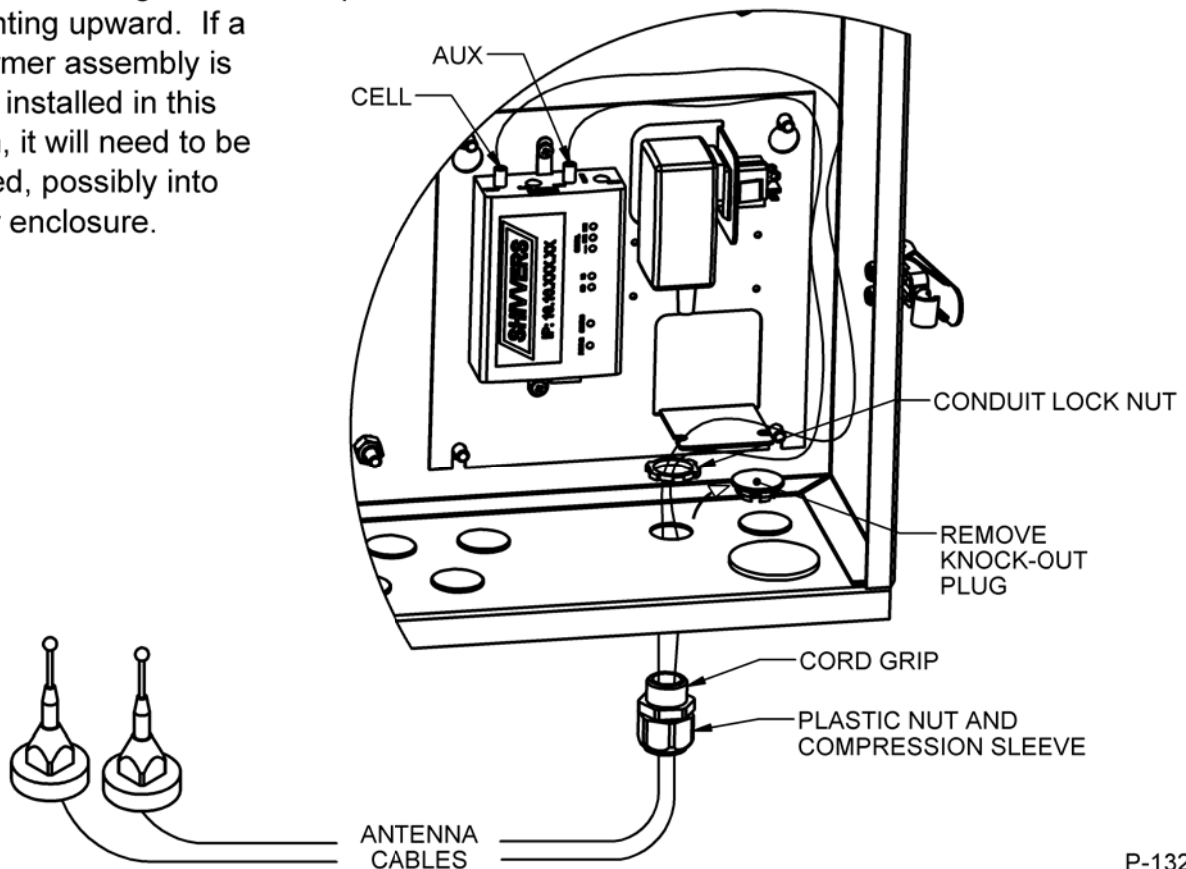

FIGURE 1
7. Remove the cover plate from the bottom of the Plenum Control by removing the 2 screws holding it in place. See FIGURE 1.